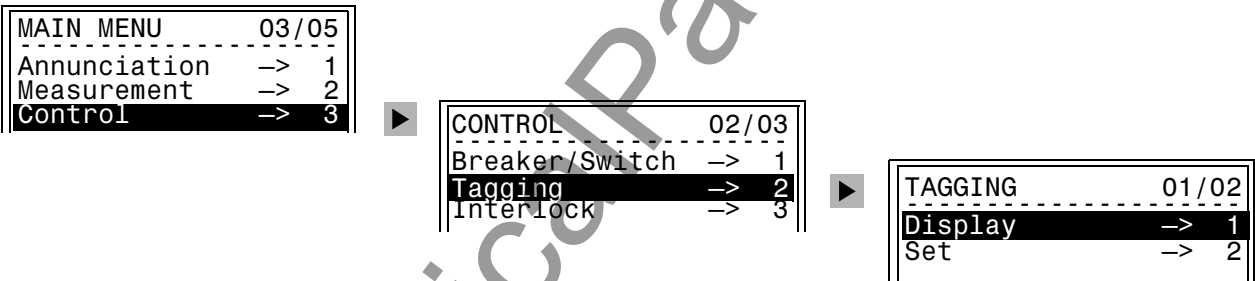

Figure 4-11 Tagging equipment from the operator control panel
- The status of the tagging is displayed on the operating panel, **Main Menu → Control → Tagging → Display** (Figure 4-11).